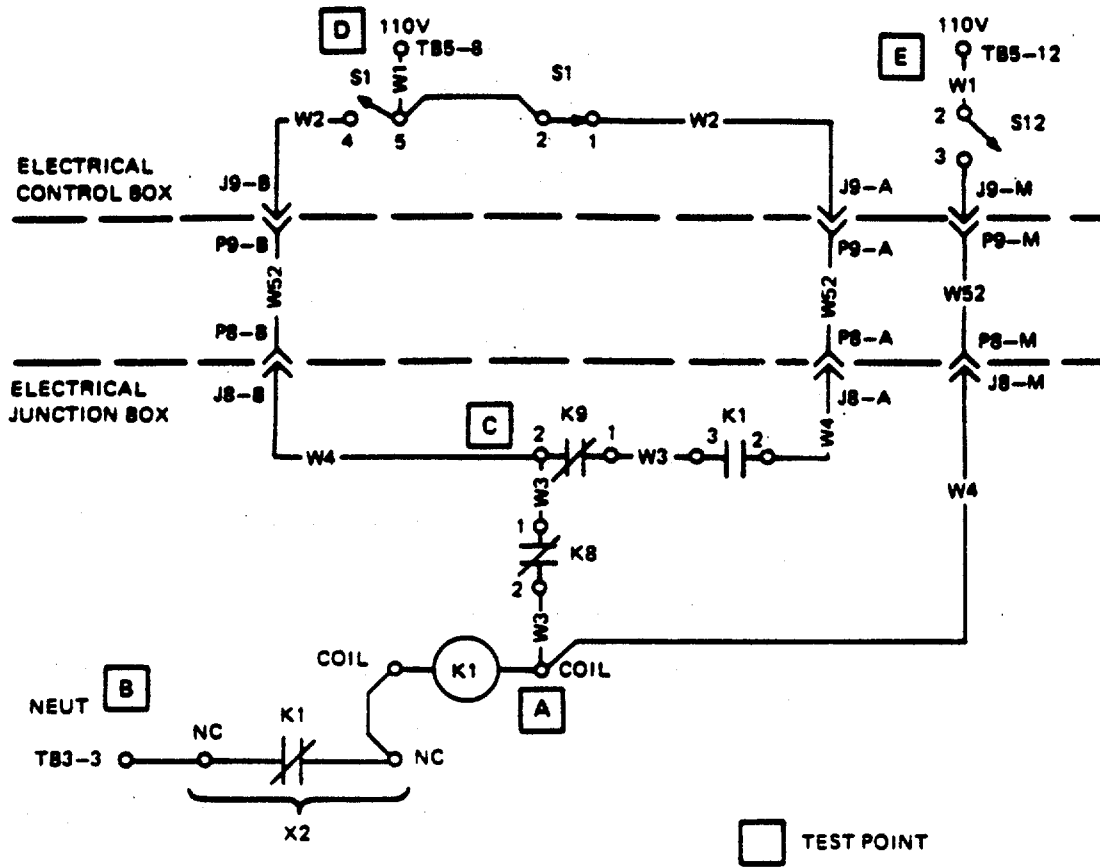

Figure 3-9. R.O. Pump Assembly Support Diagram
Ensure that all circuit breakers are set. Refer to figure FO-3 for schematic diagram and figure FO-4 for interconnection diagram. Refer to figure 3-1 for control box support diagram, figure 3-2 for junction box support diagram, and figure 3-9 for R.O. pump assembly support diagram.
- Step 4. Shut down ROWPU. Refer to TM 10-4610-239-10. Shut down power. Refer to generator manual. Refer to R.O. pump assembly support diagram figure 3-9. Check continuity point-to-point between test points A and B.
Step 5. Shut down ROWPU. Refer to TM 10-4610-239-10. Shut down power. Refer to generator manual. Refer to R.O. pump assembly support diagram figure 3-9. Check continuity point-to-point between test points A and C.
Step 6. Shut down ROWPU. Refer to TM 10-4610-239-10. Shut down power. Refer to generator manual. Refer to R.O. pump assembly support diagram figure 3-9. Hold R.O. PUMP switch in START position. Check continuity point-to-point between test points C and D through S1-4 and S1-5. If there is no continuity through S 1, replace S 1. Refer to paragraph 3-34.
Step 7. Shut down ROWPU. Refer to TM 10-4610-239-10. Shut down power. Refer to generator manual. Refer to R.O. pump assembly support diagram figure 3-9. Set R.O. PUMP switch to RUN position. Check continuity point-to-point between test points C and D through S1-1 and S 1-2.
Ensure that all circuit breakers are set. Refer to figure FO-3 for schematic diagram and figure FO-4 for interconnection diagram. Refer to figure 3-1 for control box support diagram. Refer to figure 3-1 for control box support diagram, figure 3-2 for junction box support diagram, and figure 3-9 for R.O. pump assembly support diagram.